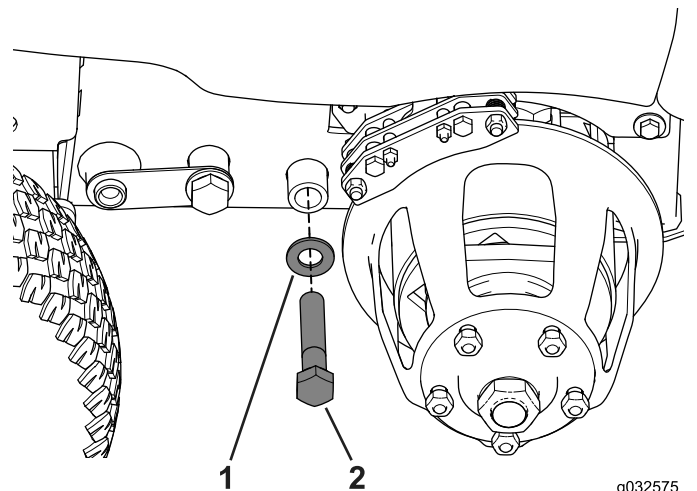

Figure 77
4. Install the bolt (3/4 x 4 inches) as shown in Figure 77.